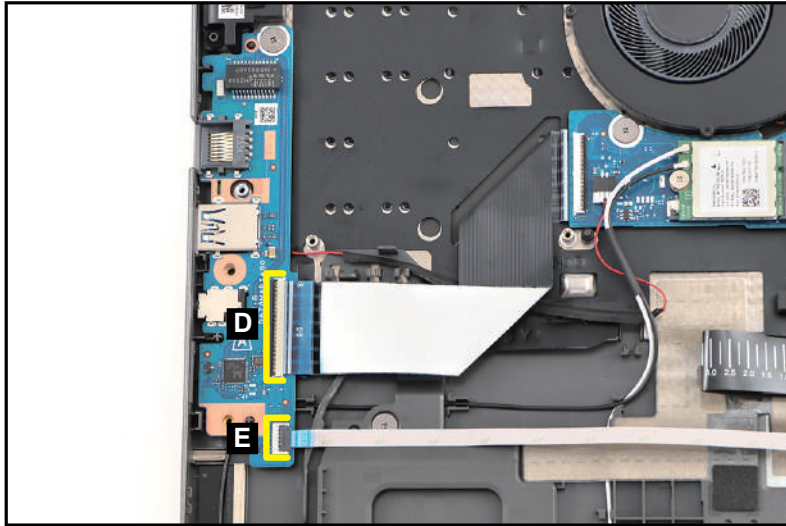

Figure 3-14. Smart Card Holder Removal
3. Disconnect the USB board FFC from the USB board connector (D). Then disconnect the fingerprint FFC from the USB board connector (E) (Figure 3-14).